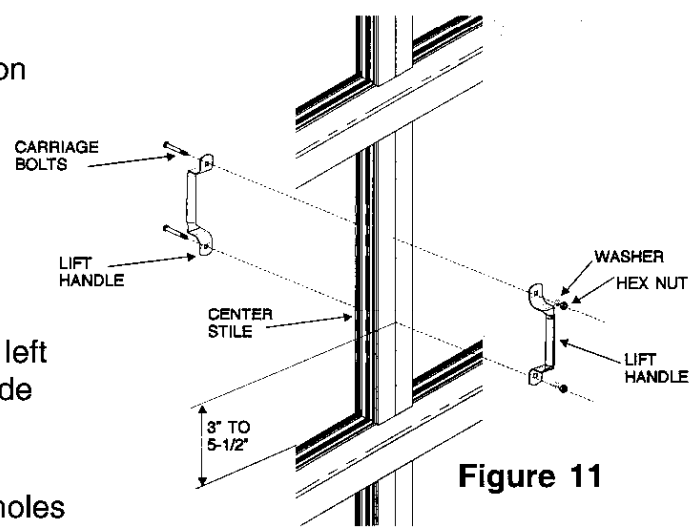

Figure 11
3. Secure lift handles with (2) 1/4" carriage bolts, washers and nuts. See Figure 11.